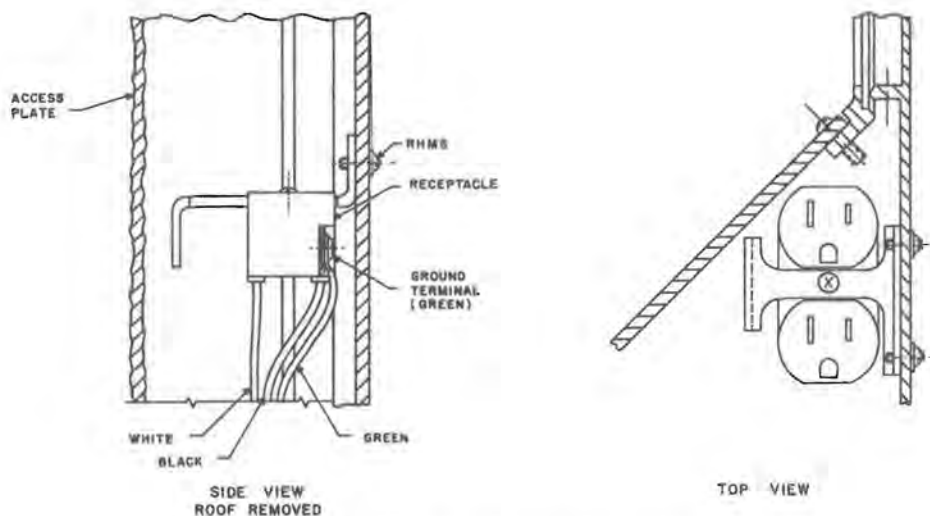

Fig. 27—Location and Wiring of Receptacle
- (3) Connect wiring to new receptacle and fasten in place as shown in Fig. 27.